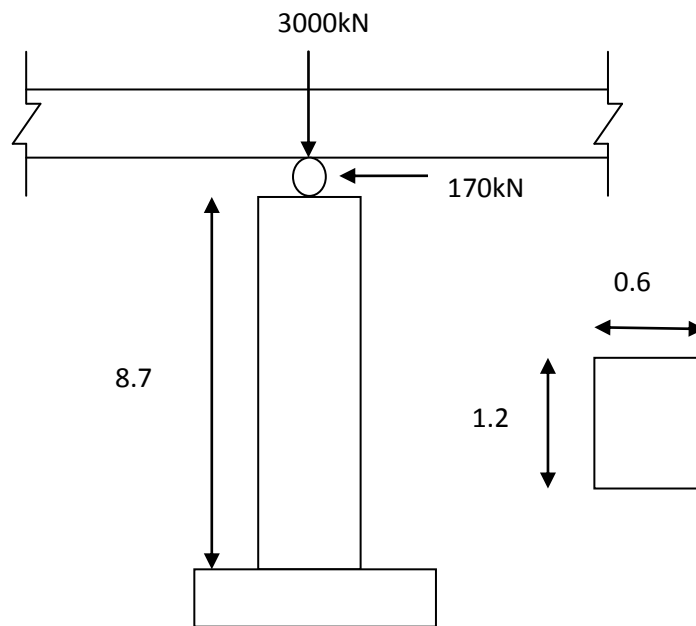

Figure 3
- (b) A reinforced bridge pier shown in Figure 3 is subjected to vertical and horizontal design load at ultimate limit state. Failure of bridge pier can be disastrous and may lead to total collapse. Design the reinforcement for the pier and use appropriate sketches to aid your explanation.